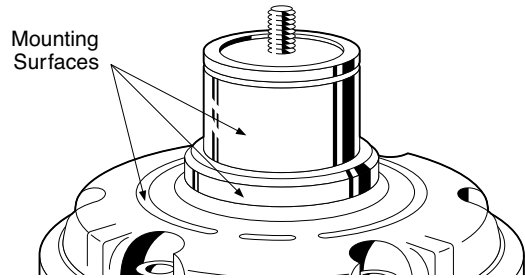

Figure 1
- B. Check mounting surfaces for nicks, burrs and scratches (See Figure 1). Smooth with a file or emery cloth, if necessary.